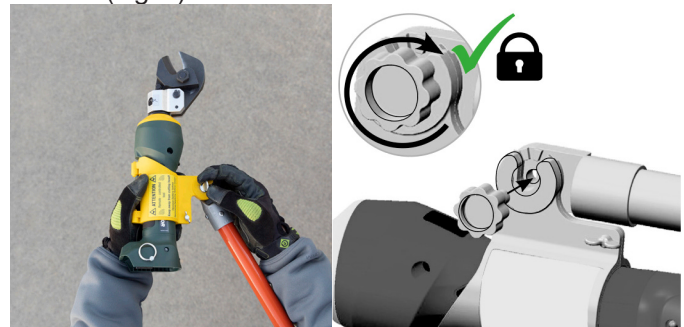

Figure 5
- vii. Insert the hot stick mount knob from the tool side and turn enough to attach to the hot stick end. Leave the knob loose enough to allow for adjustment of the position then tighten to engage the teeth to keep the cutter in position. (Fig. 5)